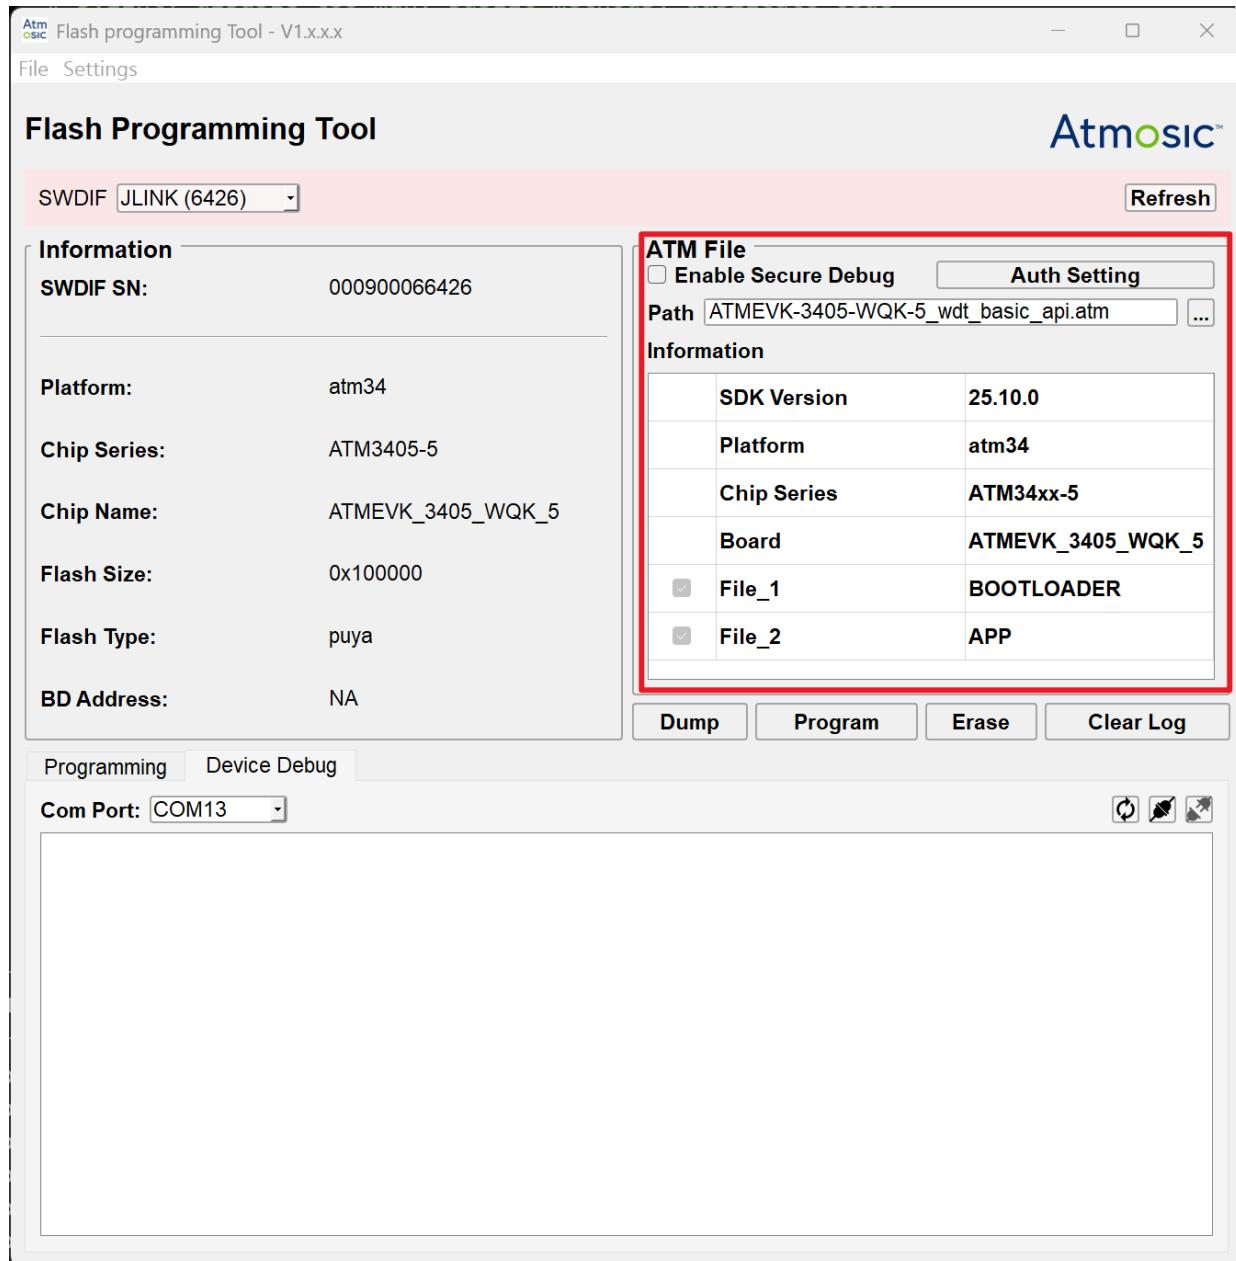

Figure 3-3 ATM File in Main GUI
- Figure 3-3 ATM File in Main GUI